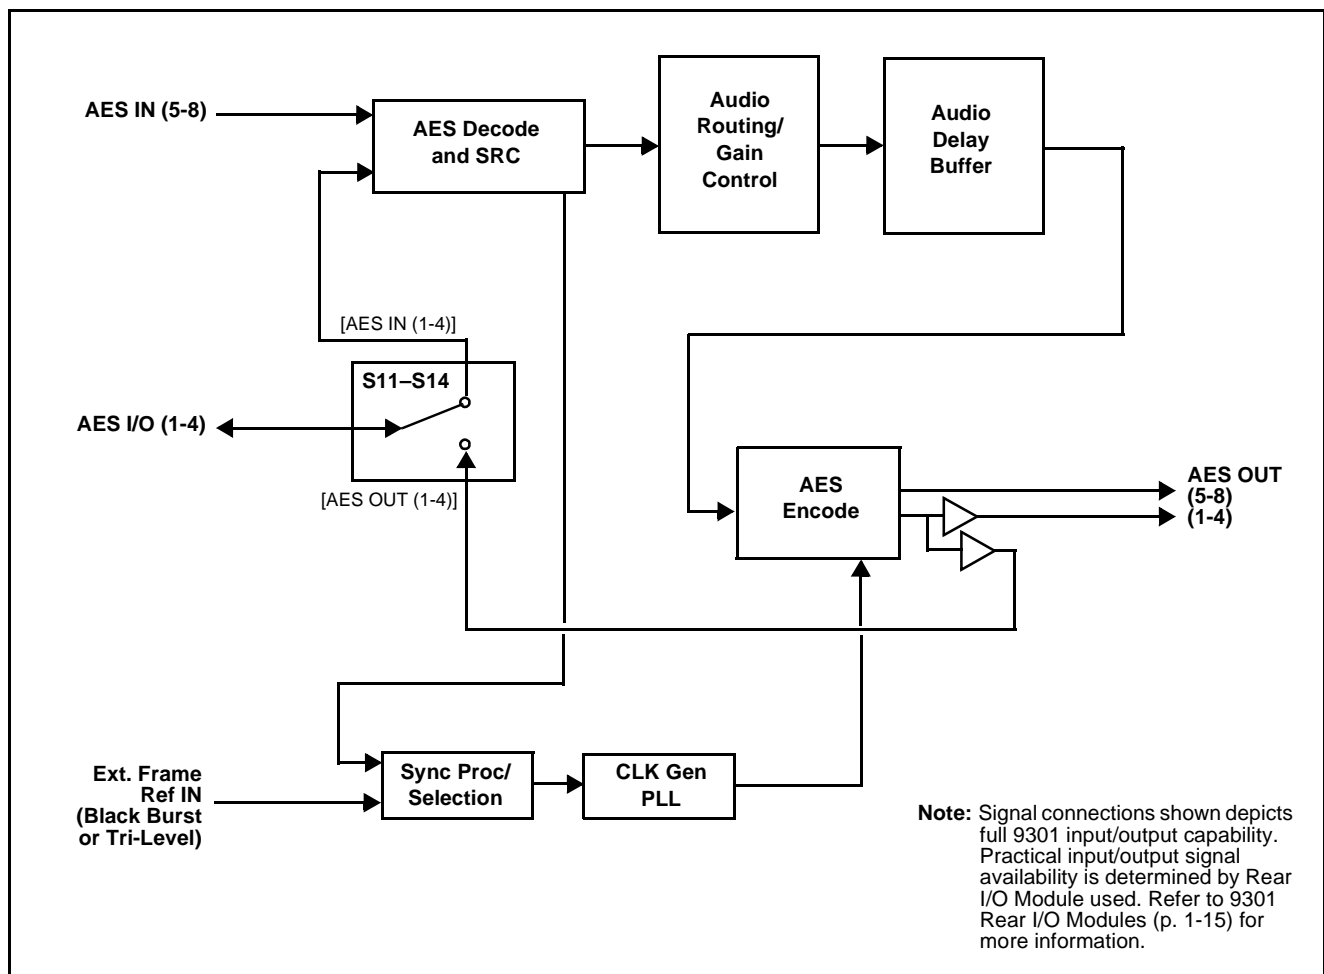

Figure 1-1 9301 Functional Block Diagram
Figure 1-1 shows a functional block diagram of the 9301. The 9301 AES audio delay provides independent delay settings (from 0.20 msec to 21 seconds) for up to eight AES channel pairs. All received AES signals are sample rate converted to match a common output timing. The output timing can be locked to the AES input timing, a black burst or tri-level video reference signal, or the card's internal clock.
- **Reference 1 and Reference 2 Frame References** – Timing is derived from an external frame sync reference signals distributed with the card frame (**Ext. Frame Ref IN** in Figure 1-1), thereby allowing the audio to be synchronized to a black burst or tri-level video reference.
Note: As shown in Figure 1-1, the 9301 is equipped with eight discrete AES input pair ports and eight discrete AES output pair ports. On Rear I/O Modules having limited AES I/O capabilities, switches S11 thru S14 allow available rear module BNC connectors to be allotted between AES inputs and outputs as desired. Buffered copies of **AES OUT (1-4)** are available as dedicated outputs and as respective outputs fed through S11 – S14 on the 9301 card.
All inputs and outputs shown in the 9301 Functional Block Diagram (Figure 1-1) enter and exit the card via the card edge backplane connector. The Rear I/O Module breaks out the 9301 card edge connections to BNC connectors that interface with other components and systems in the signal chain.